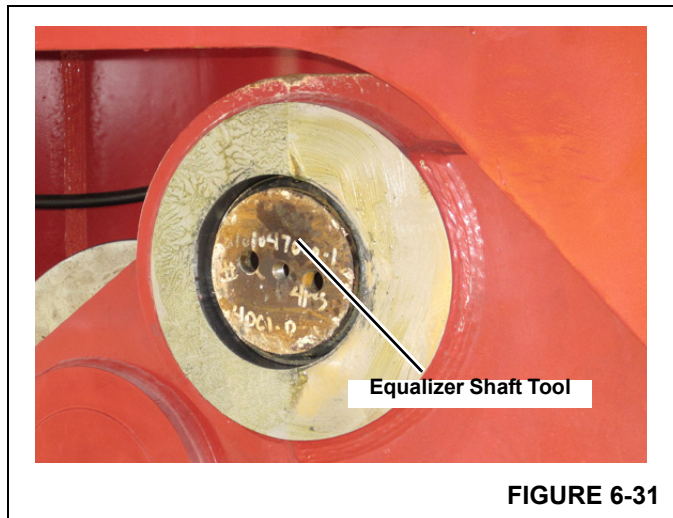

FIGURE 6-31
See Figure 6-29 through Figure 6-31 for the following procedure.
4. Push equalizer shaft tool into the equalizer until it is flush with equalizer frame (Figure 6-31).